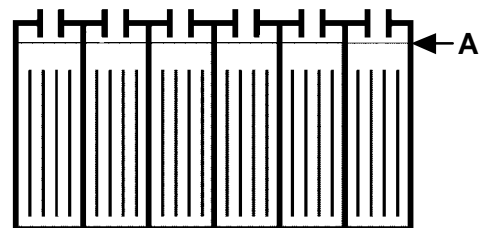

FIG. 44
2. Check fluid level (A) in each battery cell. The fluid level should be 1 cm (3/8 in.) from the bottom of sight tubes after charging. Add distilled water if needed. **DO NOT OVERFILL.** Overfilled batteries can overflow during charging due to fluid expansion (Figure 44).